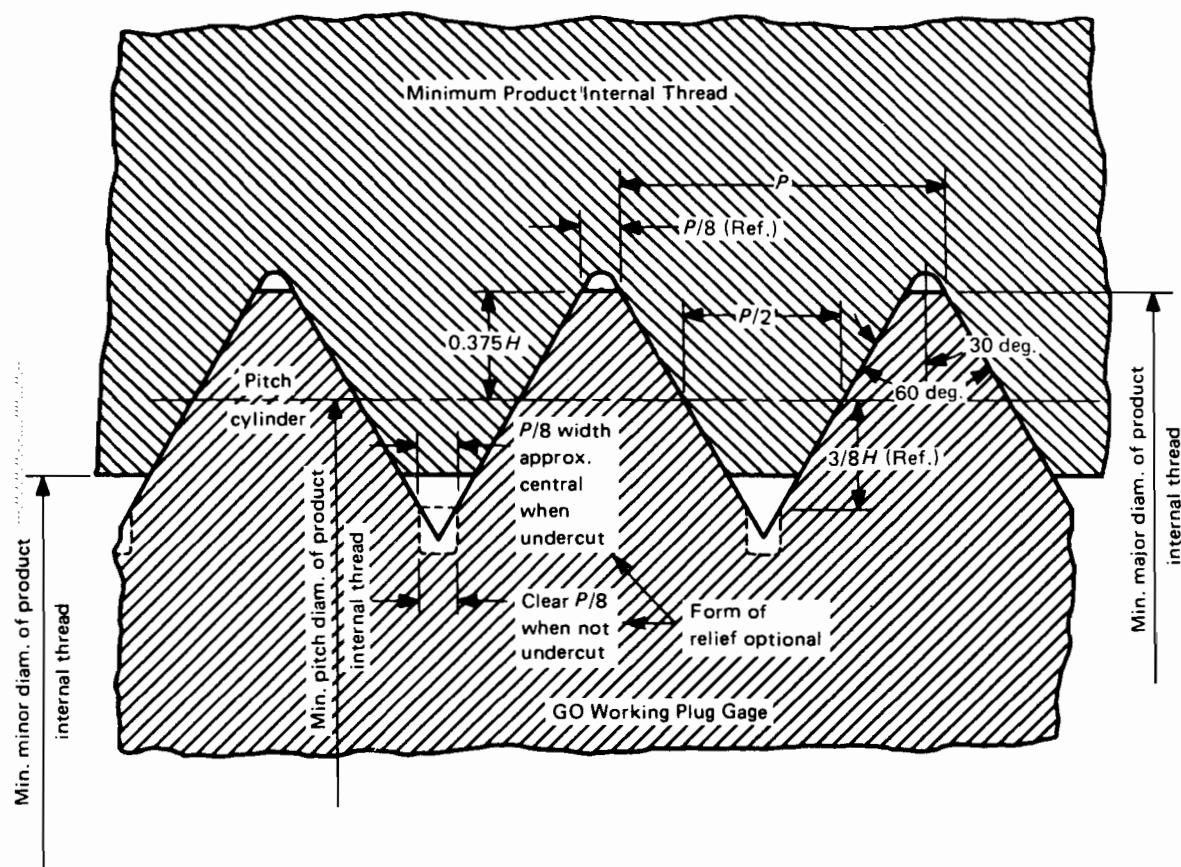

FIG. 1 MAXIMUM-MATERIAL GO FUNCTIONAL LIMIT
4.1.4 Thread Form. The specifications for thread form are summarized in Table 4 and Fig. 1.